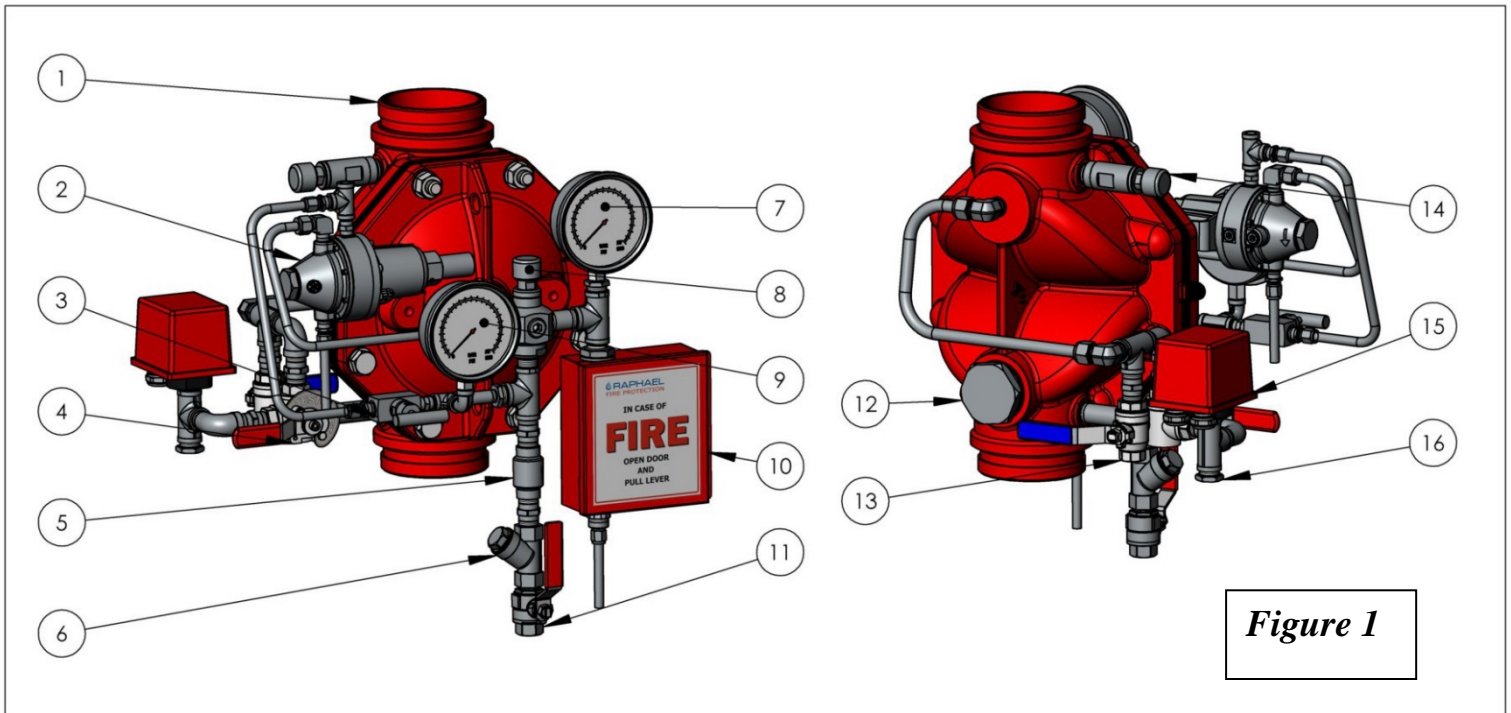

Figure 1
Operation (reference figure 1)
4. open the downstream drain valve (**13 figure 1**) of the FDV valve.
1. Close the downstream butterfly valve. Open the downstream drain valve (13 figure 1)